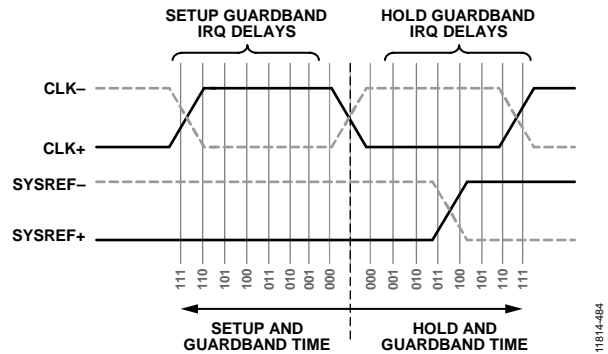

Figure 99. SYSREF± Edge Falls Within the Guardbanded Hold Time Window and Triggers an IRQ Error
In Figure 99, the SYSREF± edge misses the default setup and hold time of the clock, but would trigger an IRQ event only if certain hold time guardband delays were used. For this figure, all of the hold guardband delays that would place the SYSREF± crossing edge between it and the dotted black line would incur an IRQ event equal to 1. All other settings would be 0. Because there is no edge in the setup guardband delays, those would all be 0 if they were set.
**Table 22. IRQ Outcomes for All Setup or Hold Guardband Settings Using the Case in Figure 99**